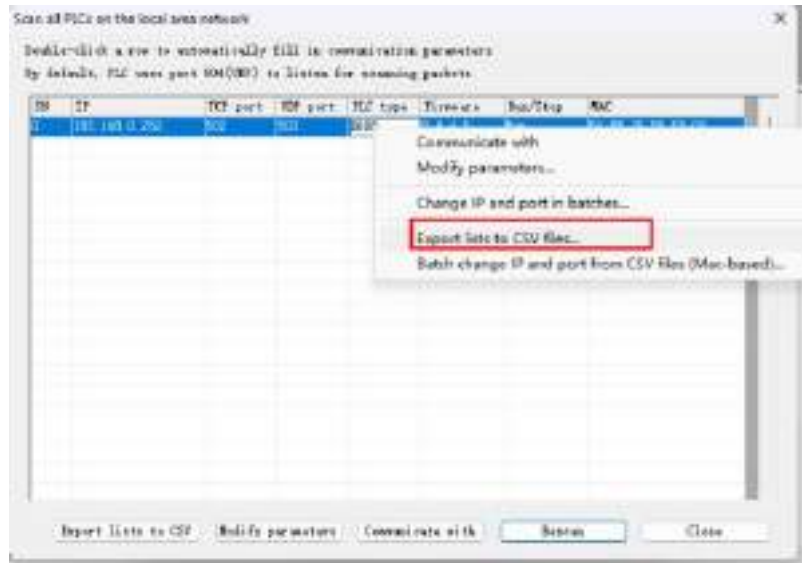

Figure 1
- ③ Click  Start with this IP set all to different when  Start with this Port set all to different, The devices in the network increment with this IP as the starting IP, and the port numbers of all devices become the same.
- ④ Click  Start with this IP set all to different when  Start with this Port set all to different, The devices in the network increment with this port as the starting port number, and the IP addresses of all devices become the same.
- ① Export the list of all PLC parameters in the network to a CSV file, as shown in Figure 1 and Figure 2.